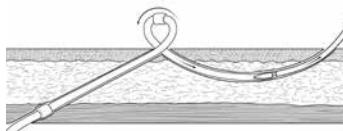

Figure 37
9. Retract Tunnelor Tool and catheter into tunnel and out of exit-site (Figure 37). **WARNING:** Do not dislodge the distal cuff.